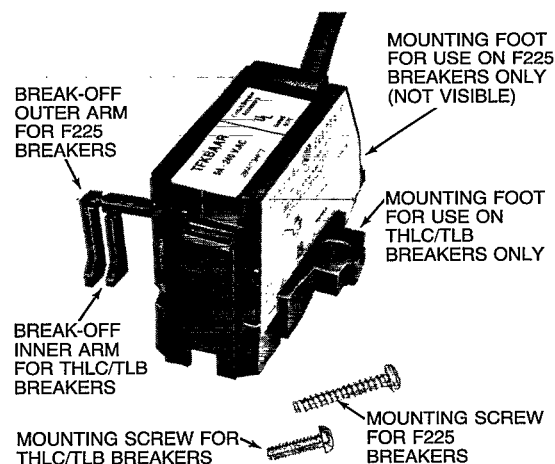

Figure 1
4. Refer to Figure 1 and break off arm as appropriate for the breaker type being used.